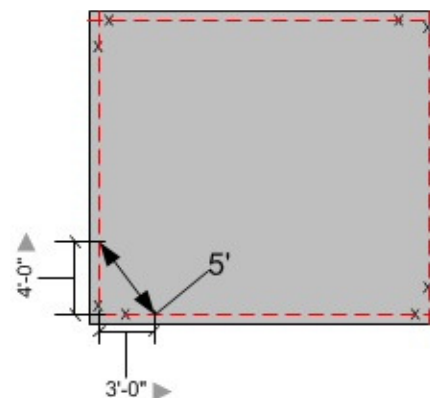

Fig.4
- Now measure across from your mark on the 3' line to the mark on the 4' line. If the corner is square the measurement should be 5' (Fig. 4).
- Start with the corner from Fig.4 to begin laying tiles from.